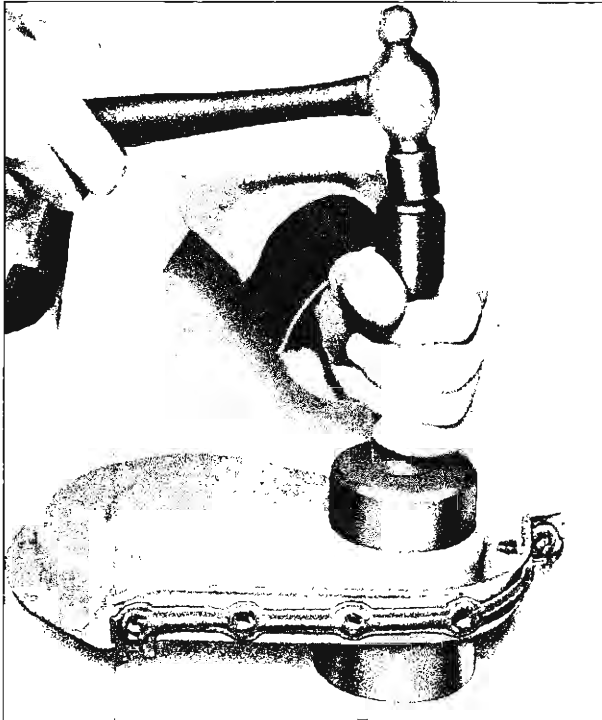

Fig. 32—Installing Timing Gear Cover Oil Seal
2. Install new lip seal with lip (open side of seal) inside of cover and drive or press seal into place with Tool J-0995 (fig. 32).